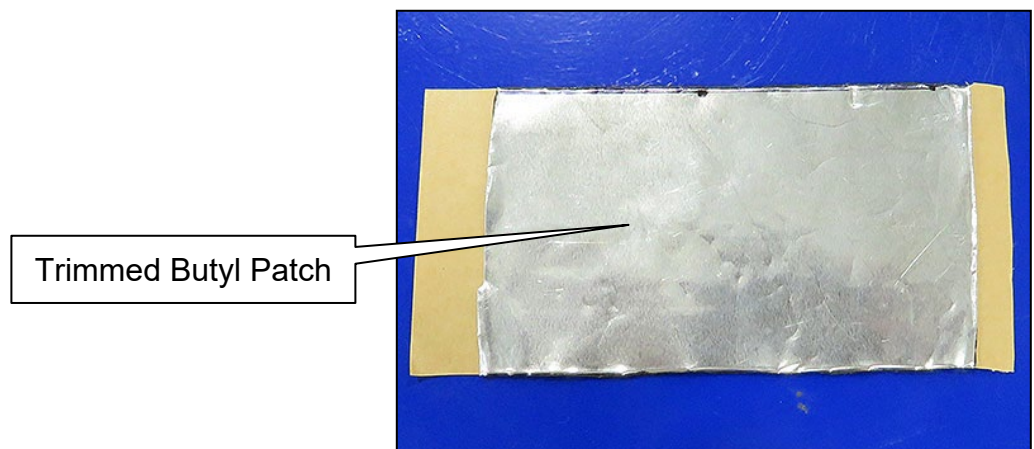

Figure 24
- Figure 24 shows one (1) of three (3) finished Butyl Patches.